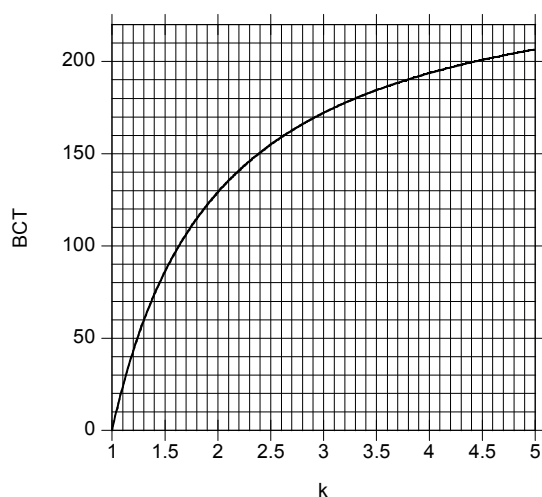

Figure 17: Relation between the k Ratio and the Optimum BCT to Recover Linearity
Equation (6) is plotted in Figure 17 and Table 11.